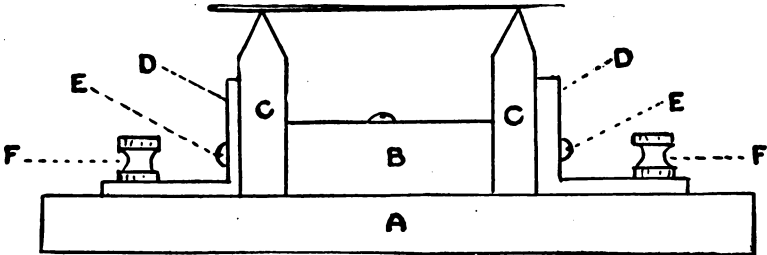

Fig. 11
The base (Fig. 11, A) is a piece of wood to which is screwed a small piece of hard wood (B). The two pieces of carbon (C, C) are sharpened to a V-shaped point at one end, and are drilled with  $1/8''$  holes near the other ends. The carbons are then placed against the block B, and the strips of brass, bent as shown at D, screwed against the carbon by screws passing through both, as at E, E. The binding-posts are then screwed into the base through the outer portion of the strips at F, F. A fine steel needle laid across the carbon points completes the detector. In connecting the receivers of your wireless and using this detector the aerial